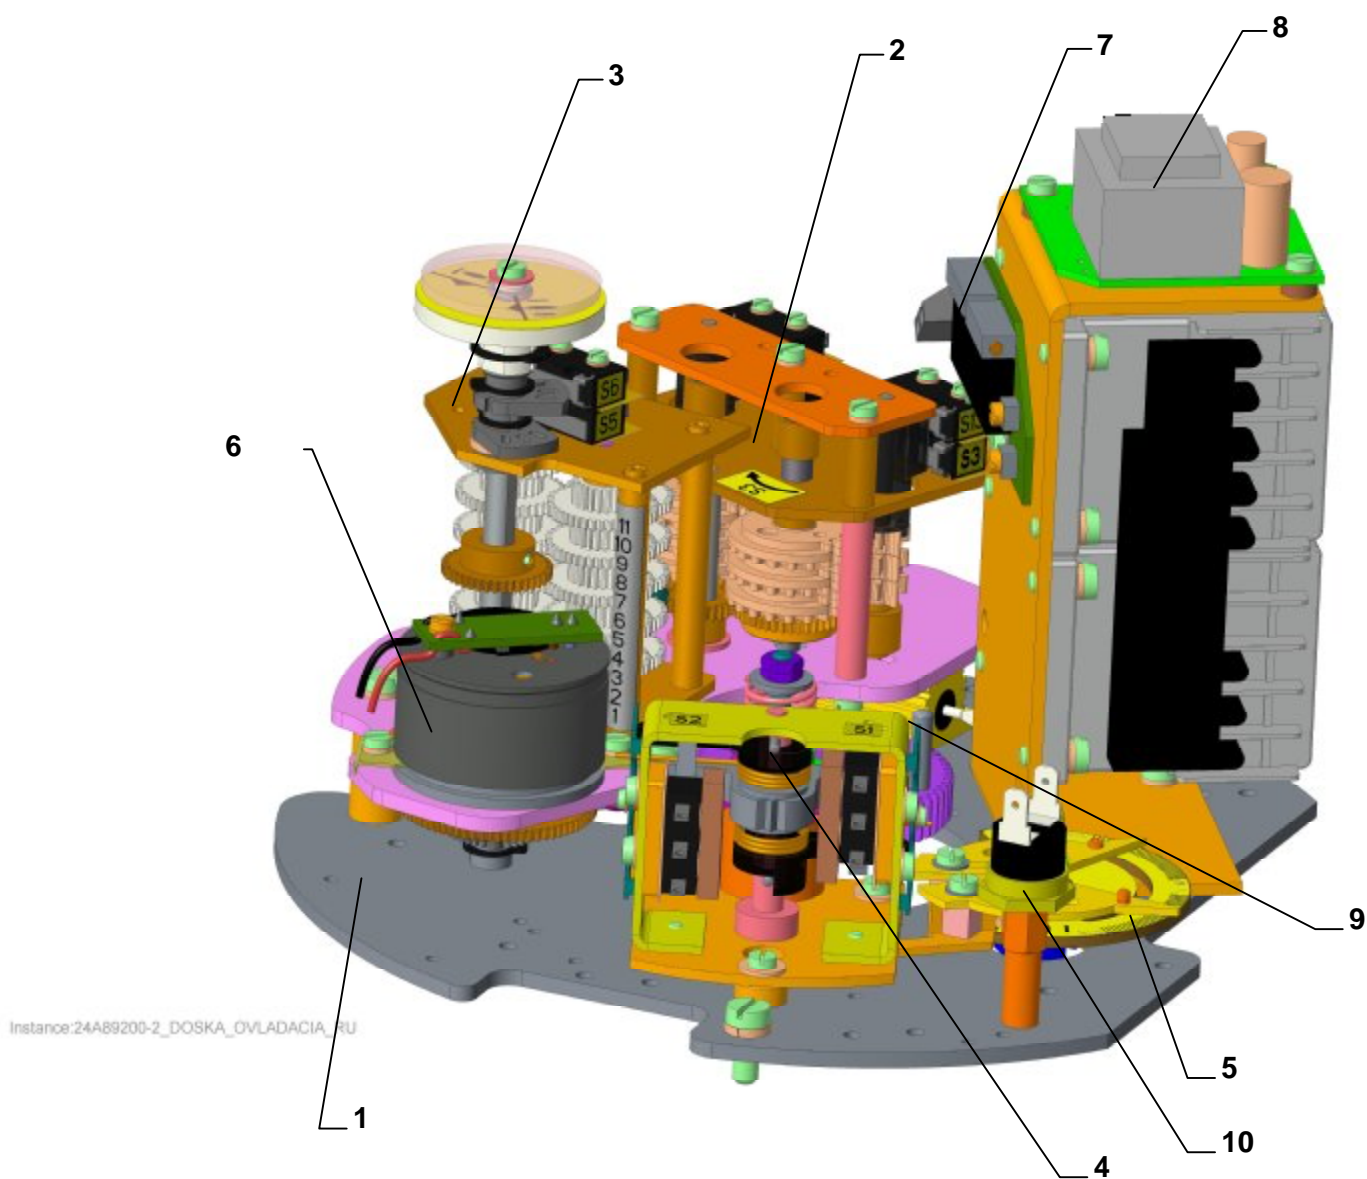

Fig. 3 – MO 3-Ex – MO 3.5-Ex
The bottom part of control box closes the box of force transmission and forms carrying part of control plate (1) (Fig.3,-3c).
- position unit (2) (Fig.3,3a,3c).
- signalling unit with gear unit and with position indicator (3) (obr.3,3a,3c)
- torque unit (4) (Fig.3,3a,3c) with torque disk (5) (obr.3,3a,3c)
- transmitter unit (6) with electronic position transmitter (7) active (8) (according to EA specification) (Fig. 3,3a, 3c)
- heating resistor (9) with thermal switch (10) (Fig. 3,3a, 3c)
### **Position unit (2, Fig. 3,3a,3c)**
### **Signalling unit with gear unit and with position indicator (3, Fig. 3,3a,3c)**
### **Transmitter unit (6, (Fig. 3,3a, 3c) with electronic position transmitter (7) active (8) (according to EA specification)**
### **Heating resistor with thermal switch (9,10, Fig. 3,3a,3c)**
The EA is equipped with a space heater (9) with an external thermal switch (10) (Fig. 3,3a,3c) with a total output according to ch. 2.2. to prevent the condensation of water vapor and for the correct function of the built-in electric control parts of the ES in case of low working temperatures of the EA.